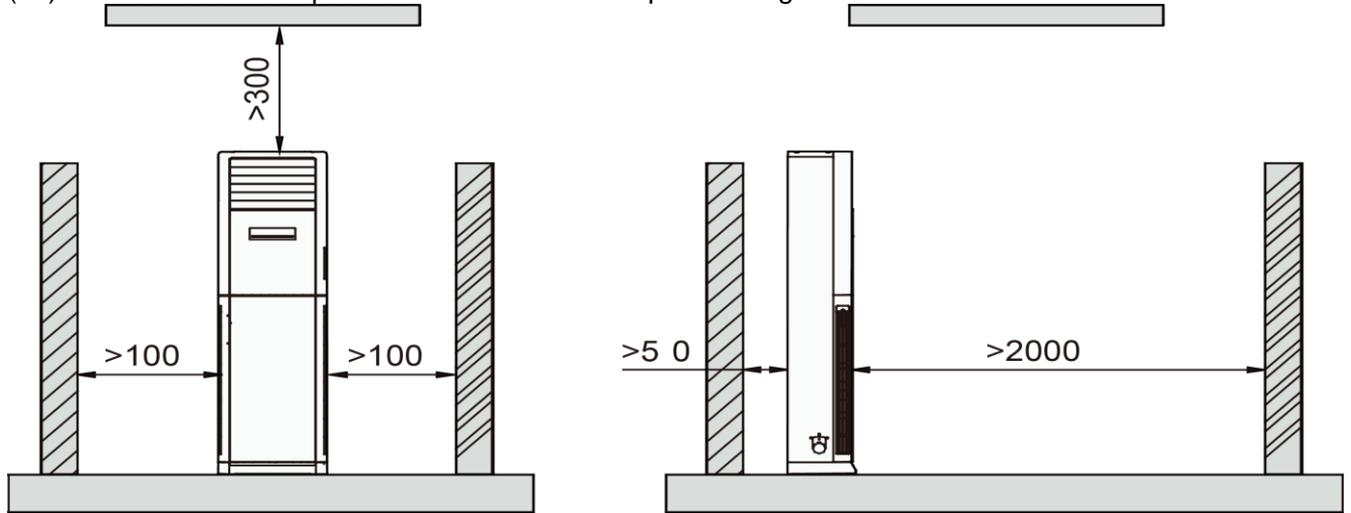

Fig 3-1-62
- (2) Select a place avoid the water vapor or oil sprayed on the unit.
- (3) Ensure that airflow can reach every conner of the room.
- (4) Choose a place so that the connection pipe could be easily pulled out.
- (5) Select the place where the airflow of the unit can not be blocked.
- (6) Select the position where the few outer air influenced.
- (7) Select the firm and flat ground.
- (8) Ensure sufficient clearance and space for service and maintenanc.
- (9) Ensure the installation of indoor unit is in conformity with the requirements of installation dimension drawing;
- (10) Do not use the unit in the immediate surroundings of a laundry a bath a shower or a swimming pool.
- (11) A location from which the condensation water can be drained out conveniently.
- (12) Leave service space around the unit as required in Fig 3-1-62